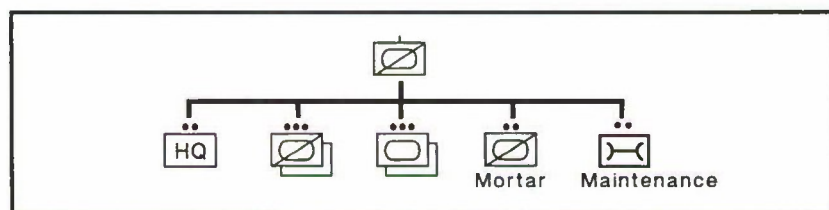

Figure 1-4. Armored cavalry troop organization.
The armored cavalry troop consists of a headquarters, two tank platoons, two scout platoons, and mortar and maintenance sections. The headquarters section is equipped with one main battle tank, one command post (CP) carrier, one APC, one cargo truck, and two utility trucks. The scout platoons consist of six M3 cavalry fighting vehicles (CFV). Equipment in the mortar and maintenance sections includes two 107-mm mortars mounted in self-propelled carriers, one APC, one heavy recovery vehicle, one utility truck with cargo trailer, and two cargo trucks with cargo trailers. (See Figure 1-4.)